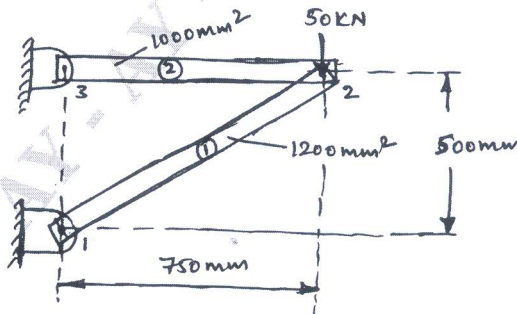

Fig.Q4(b)
- b. Find the nodal displacement, stress and reaction of truss element shown in Fig.Q4(b). Take $E = 200\text{ GPa}$.